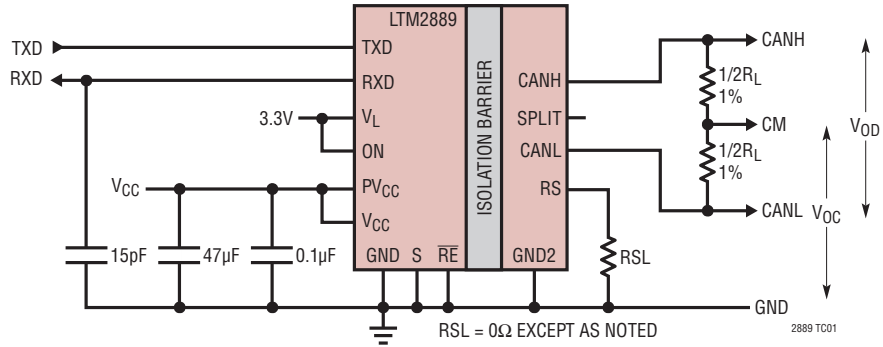

Figure 1. Electrical Characteristic Measurements of Bus Pins CANH, CANL
**ELECTRICAL CHARACTERISTICS** The ● denotes specifications which apply over the full operating temperature range, otherwise specifications are at  $T_A = 25^\circ\text{C}$ . Unless otherwise noted, the following conditions apply:  $PV_{CC} = V_{CC} = 3.3\text{V}$  for the LTM2889-3,  $PV_{CC} = V_{CC} = 5\text{V}$  for the LTM2889-5,  $V_L = 3.3\text{V}$ ,  $\text{GND} = \text{GND2} = \text{S} = \text{RE} = \text{RS} = 0\text{V}$ ,  $\text{ON} = V_L$ . Figure 10 applies for  $V_{CC2} = 3.3\text{V}$ ; otherwise ADJ is floating. Figure 1 applies with  $R_L = 60\Omega$  and dominant mode measurements are taken prior to TXD dominant timeout ( $t < t_{\text{TOTXD}}$ ). (Note 2)